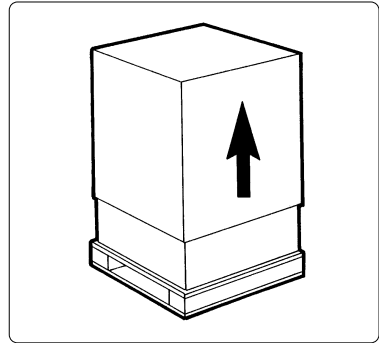

Fig. 1
- a) Remove any packing material from the machine, then slip it off from the top (see fig. 1).